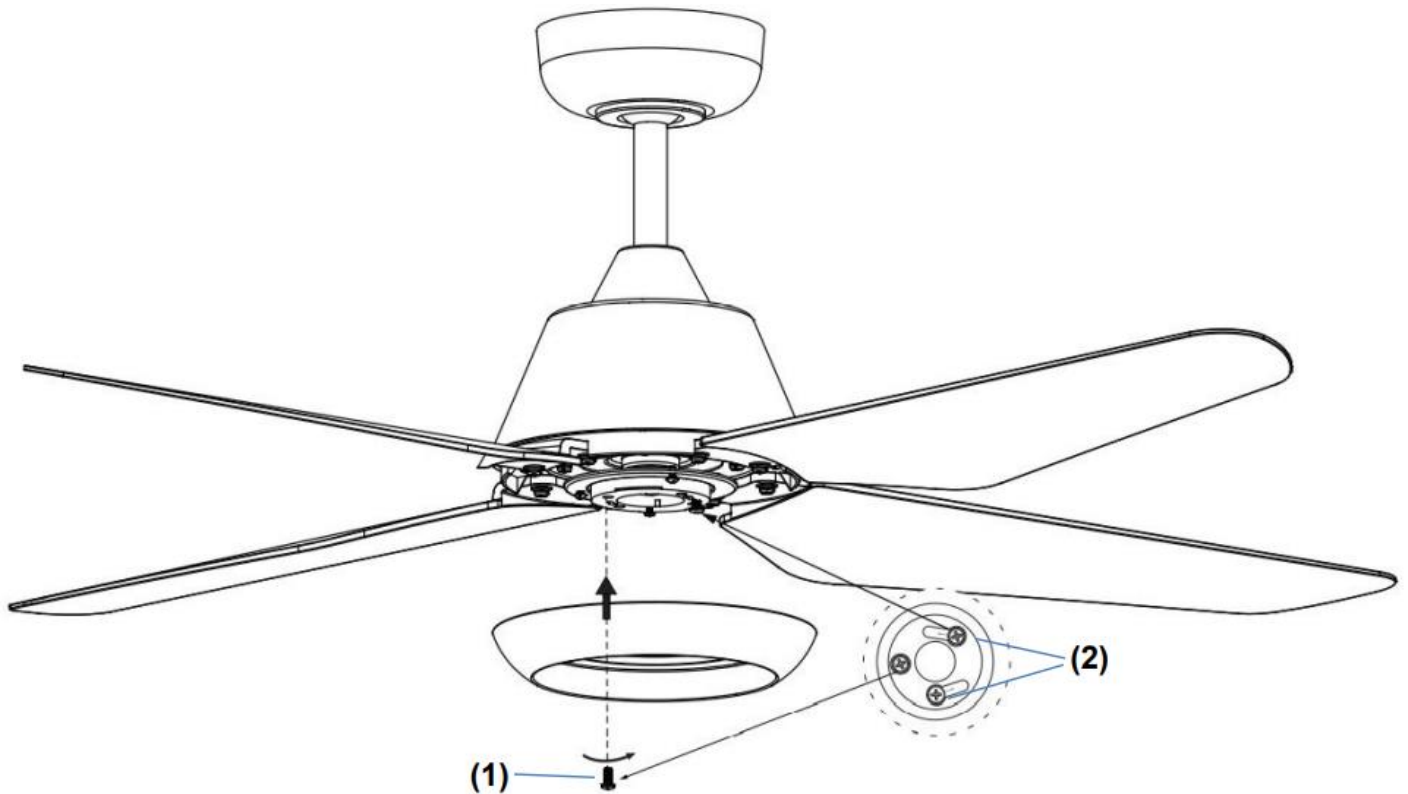

Fig. 6
INSTALLATION OF LIGHT KIT (Fig. 6)
1. Loosen the screw (1) from the fan bracket. (Fig. 6)
2. Align the two slot screws with the keyhole slots (2) of the light kit plate. (Fig. 6)
3. Turn the light kit plate counterclockwise until the slot screws are firmly at the end of the slots (2).
4. Secure screw (1) to the lamp shade bracket. Tighten all three screws. Do not over-tighten.